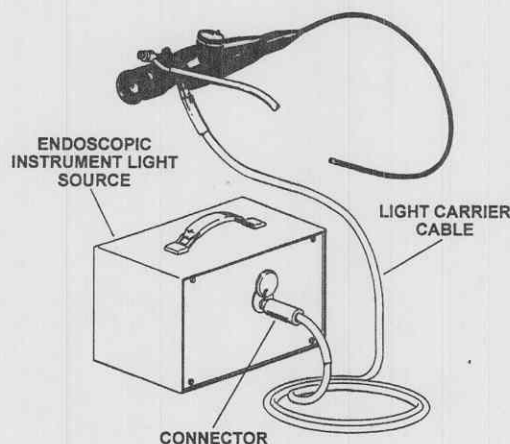

Figure 2-6. Connection to a light source.
- e. Connect the light carrier cable to the endoscopic instrument light source (fig 2-6) in accordance with the procedures contained in the applicable technical manual for the light source.